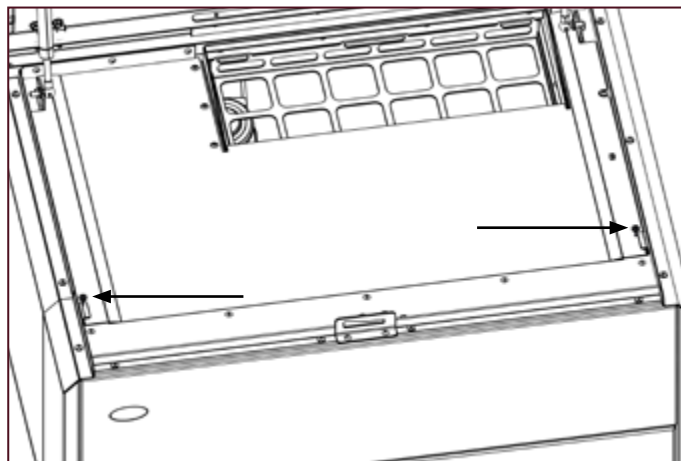

Figure 11-2: Removing the access cover
- Undo the two screws (one on each side) and remove the access cover from the top of the boiler. Refer to Figure 11-2.